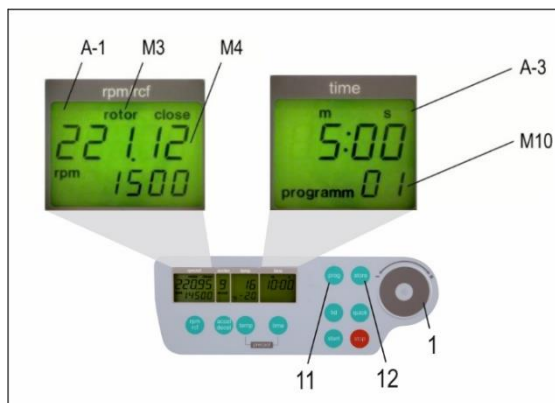

Figure 29
Put the desired rotor into the centrifuge. By pressing the key, "prog" (11), in the display "time" (A-3) appears the word "program", (see Figure 29). With the control field (1), choose the desired program number.
If a program number is already occupied, in the display "rpm/rcf" (A-1), the words "rotor" (M3) and "22x.xx" (M4) will appear, (see Figure 29). Free program numbers will appear as 0.
For all number marked text, please refer to Figure 29.